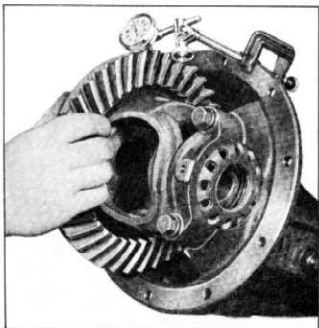

Fig. 18—Checking Ring Gear and Pinion Backlash
4. Mount a dial indicator on the carrier and check the back lash (fig. 18), between the ring gear and pinion. The back lash should be from .005"-.008".